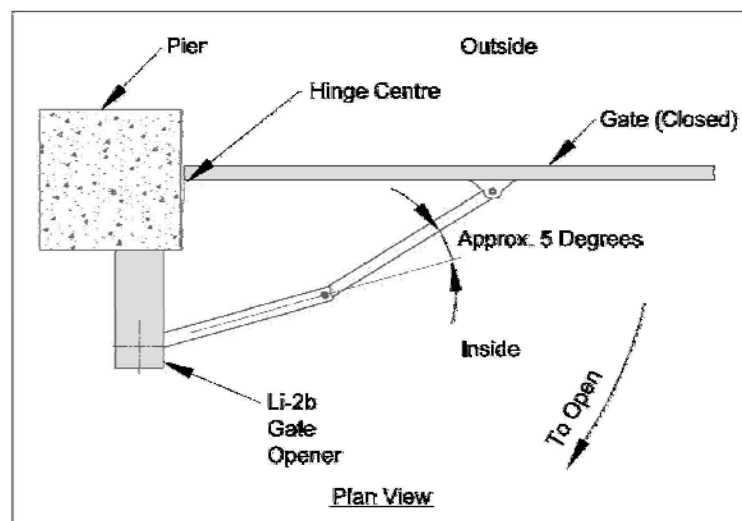

Figure 4: Standard installation.
- The gate bracket should be positioned so the arms are ALMOST in a straight line when the gates are closed (See figure 4). To check the location of the gate brackets, first disengage the Main arm from the drive shaft (using the spanner provided, unscrew the bolt until the arm swings freely) THEN CLAMP THE GATE BRACKET IN POSITION. Open and close the gate to ensure the gate bracket is appropriately located.